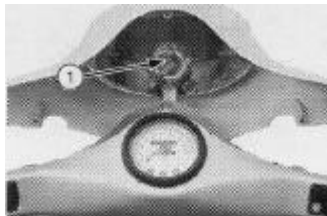

Fig. 25
A) HEADLIGHT (FIG. 25)
3. Change the flat bulb (1 -FIG. 25).